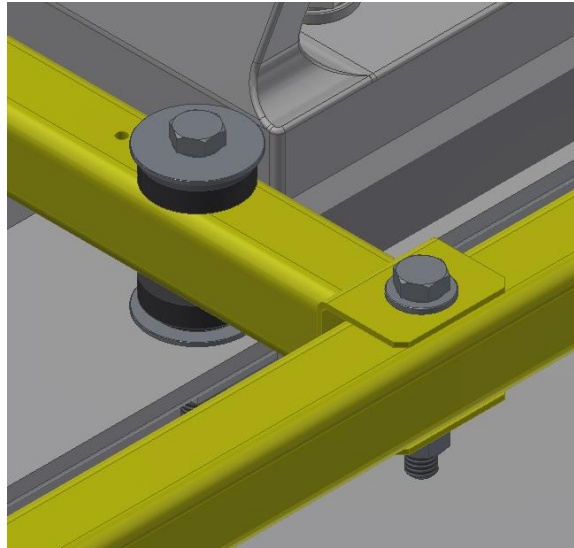

Figure 14: Machine Guard Side Frame Connection Assembled View
- An assembled view of this connection is shown below (Figure 14).